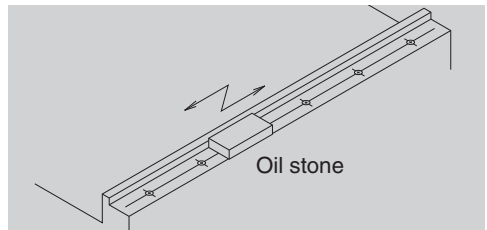

Fig. 9.12
- For both methods, wipe off the rust preventive oil applied to the linear guide. Remove burrs and small bumps on the machine base and table mounting face with an oilstone (Fig. 9.12).